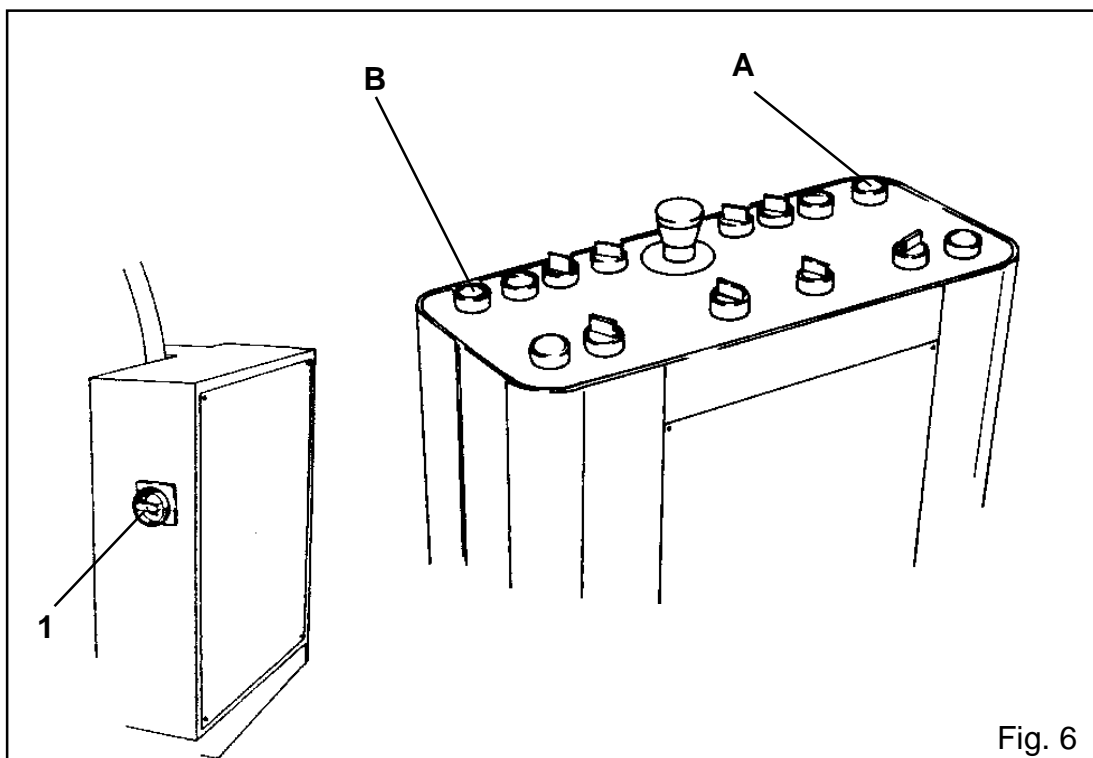

Fig. 6
- Turn main switch 1 (Fig.6).
- Press button A (Fig.6) in order to turn on movable head's motor : warning light will start functioning
- Press button B (Fig.6) to turn on fixed head's motor : warning light will start functioning.